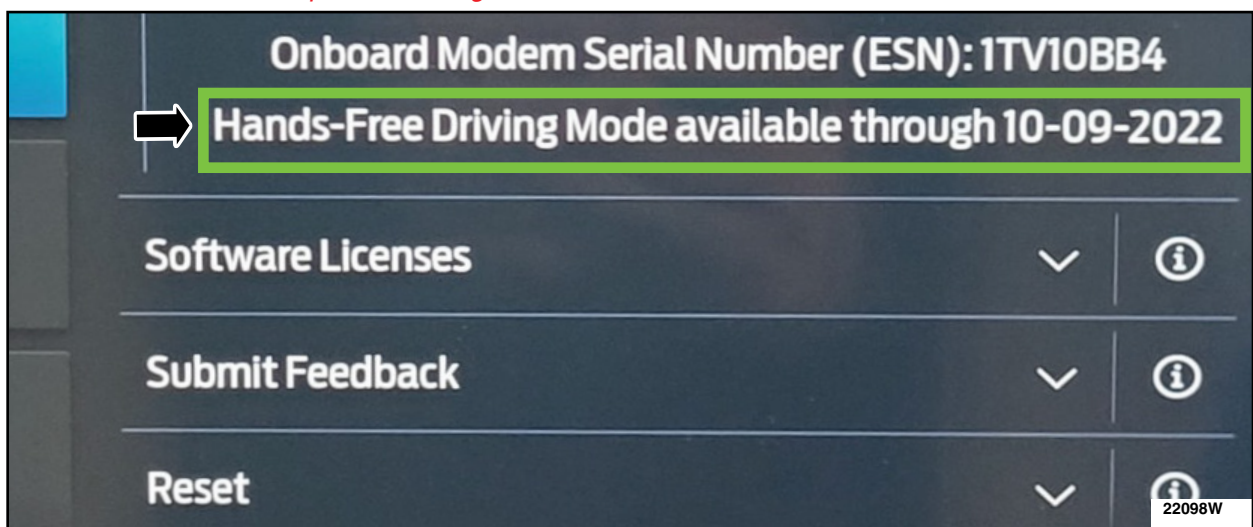

FIGURE 26
32. On the center display screen, navigate to Settings > About SYNC > Hands-Free Driving Mode available through DD-MM-YYYY. Verify that expiration date is in the future. See Figure 26.